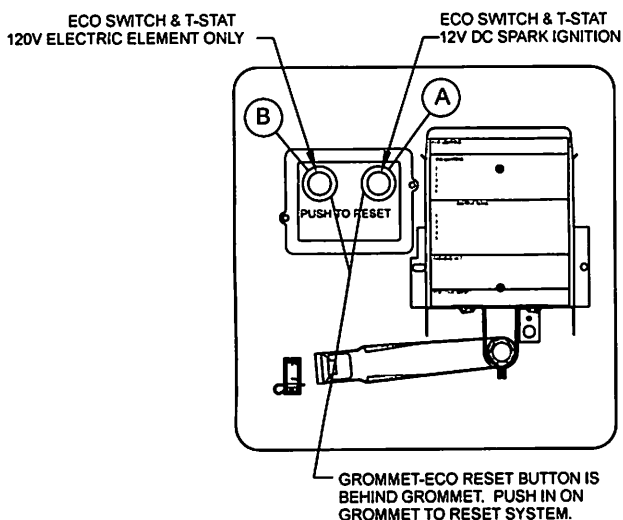

Figure 14
C. Reset button on ECO is tripped. (See Figure 14)
and SW6DEM (See Figure 14)
(See Figure 14)